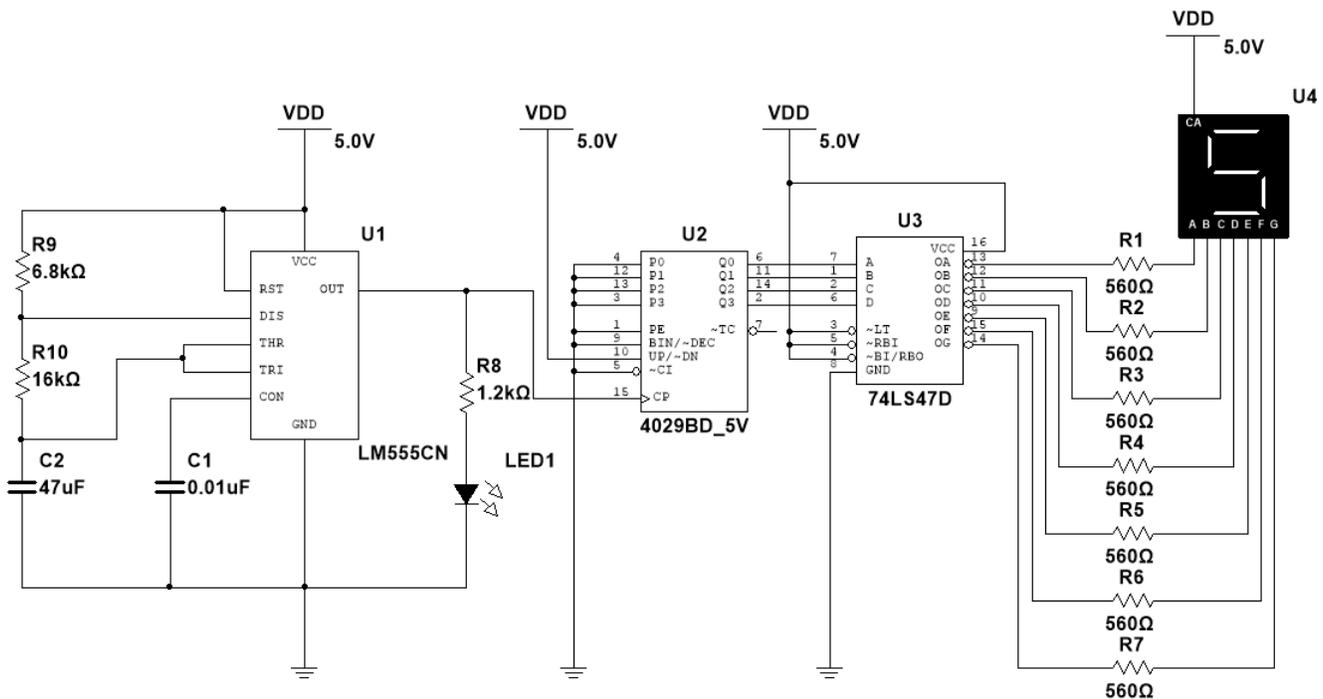

Figure 1
1. Construct the circuit in the schematic diagram shown in Figure 1.
i Please follow the following instructions to construct the circuit shown in Figure 1: